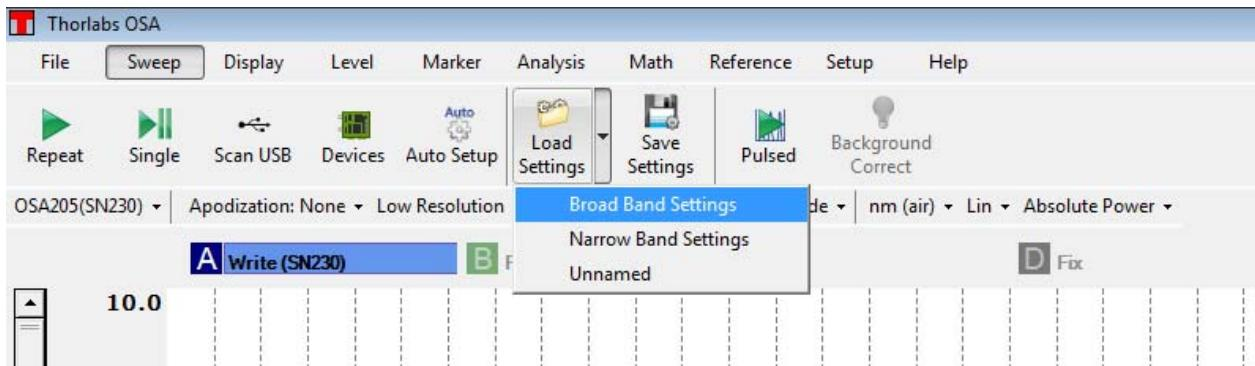

Figure 70 “Load Settings” Button, Allowing Saved Parameter Settings to be Quickly Loaded and Applied to Setups
2. Clicking on the “Load Settings” button will bring up the “Load Acquisition Settings” dialog (see Figure 70). Here you have the possibility to carefully inspect the settings behind a saved name before loading the settings. It is also possible to rename or delete a stored parameter setting from the menu that is displayed when right clicking on any element on the list.